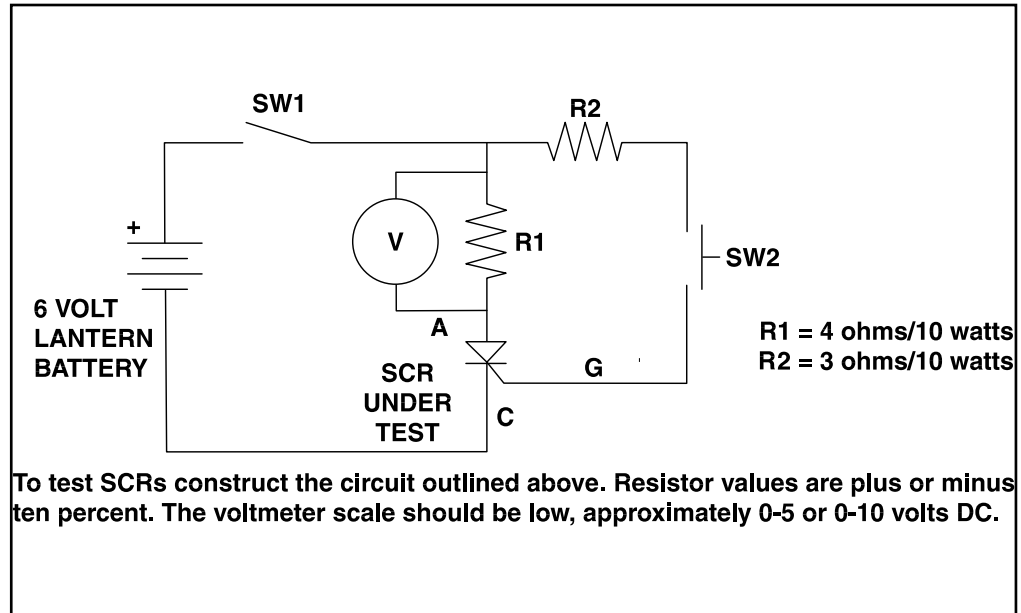

FIGURE F.17- Silicon Controlled Rectifier (SCR) Test Setup
4. Perform test procedure as follows. Refer to Figure F.17. Repeat test for all six SCRs.
5. To test SCRs, construct the circuit outlined in Figure F.17. Use one 6V lantern battery. Resistor values are in ohms  $\pm$  10%. The voltmeter scale should be low, approximately 0-5 or 0-10 volts.